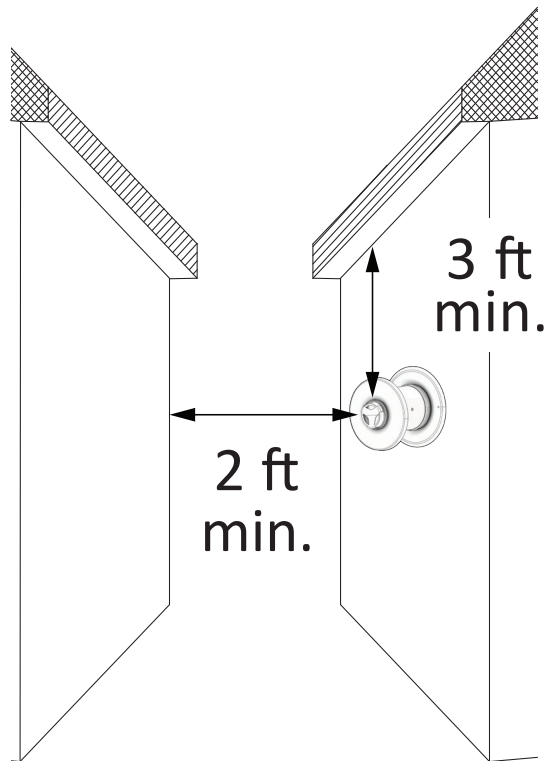

Figure 15 - Concentric Wall Termination Clearances (TI Indoor Models)
- Concentric wall terminations should be at least 3 ft. away from a ventilated or unventilated soffit. Concentric wall terminations should be at least 2 ft. away from an opposite surface or wall (Figure 15).